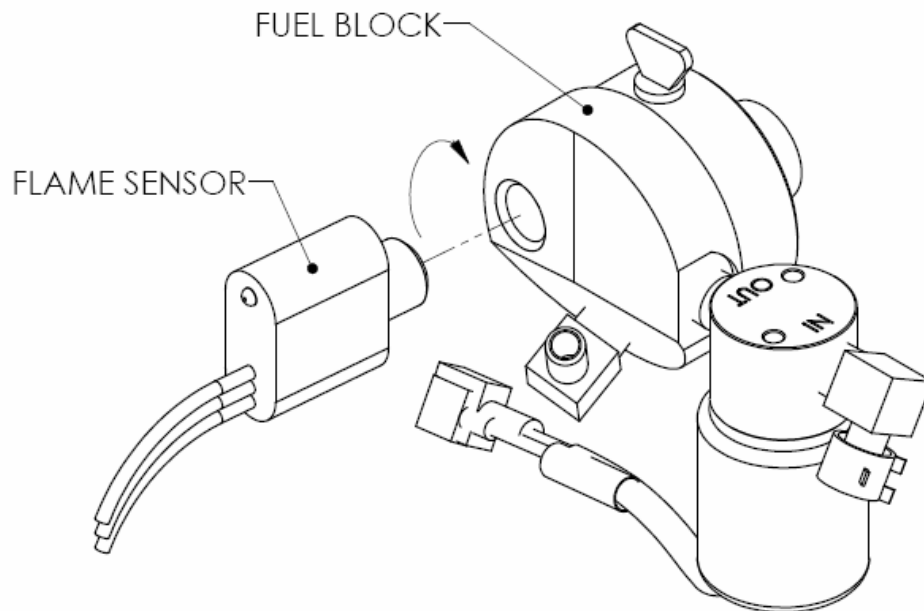

Figure 20: Flame sensor attachment
5. Unscrew the fuel nozzle (counter-clockwise) using a 5/8" wrench (see Figure 20).